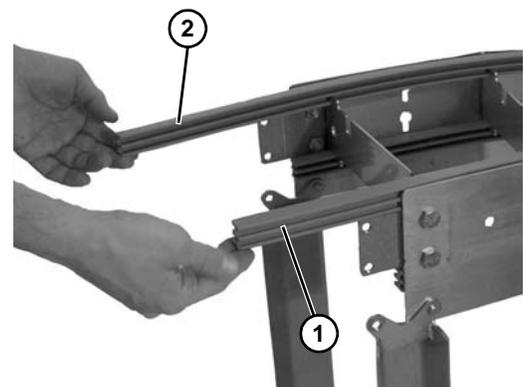

Figure 52
5. Slide off inner (**Figure 52, item 1**) and outer (**Figure 52, item 2**) belt guides.